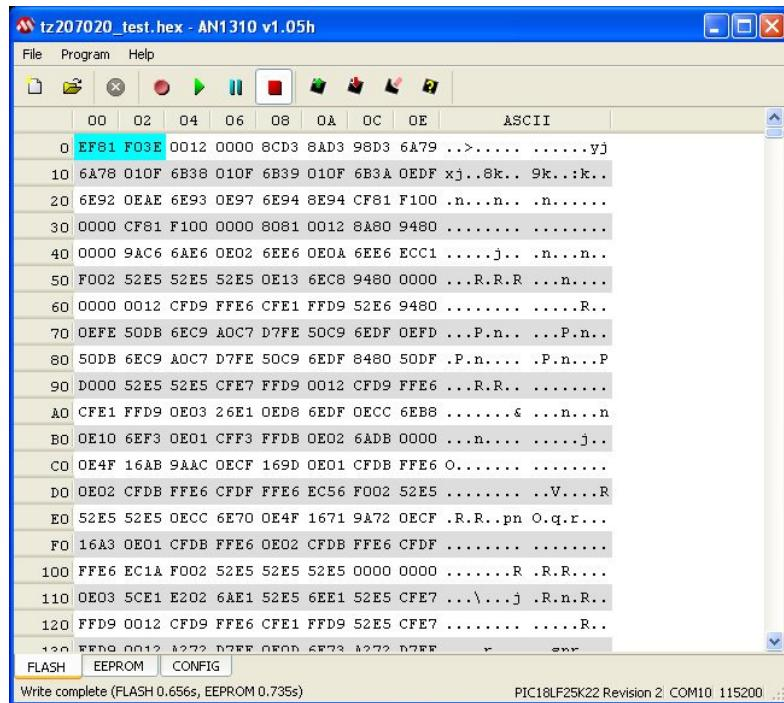

**Figure 24. Locating the User Code.**
- Click the 'File', Menu Item and navigate to the location of the HEX file of the user code that is to be loaded into the PIC. Figure 24 shows an example of such a code location. Select the code and click on the 'Open' Button. The main Bootloader screen will be displayed.